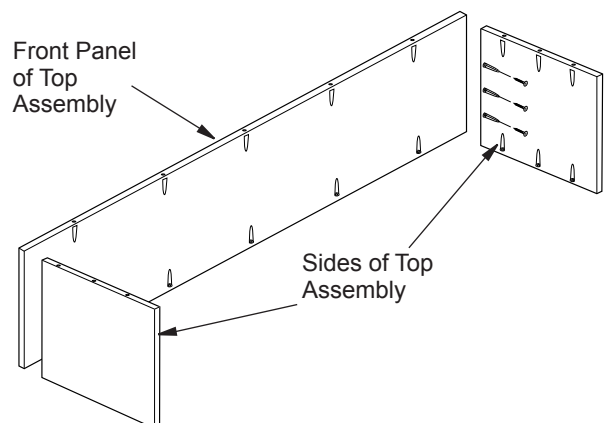

Figure 5 - Attach Sides to Front of Mantel Top
1. Some models may require mantel top assembly. For these models attach sides of top assembly to front panel of top assembly using (6) 1 1/4" screws (see Figure 5).